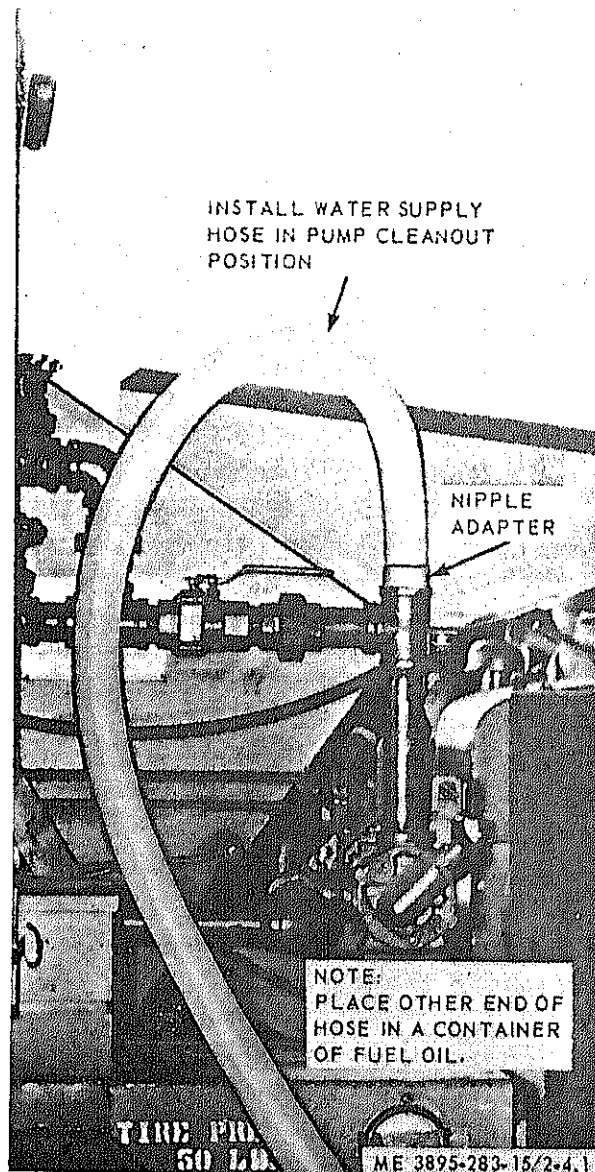

Figure 2-4.1.
- Step 1 Check to see that valves (A) and (J) are closed.
- Step 5 Remove plug (G).
- Step 6 Open valve (B).
- Step 7 Engage asphalt pump clutch lever (E) and pour fuel oil into opening (G); or attach one end of a hose to (G) and place the other end in a container of fuel oil. This allows fuel oil to be pumped through the system and into the pugmill (fig. 2-4.1).
- Step 8 Disengage asphalt pump clutch (lever at E), and fill line with fuel oil before replacing plug (G). This allows fuel oil to stand in the line and pump.
Page 2-12. Immediately after figure 2-4, figure 2-4.1 is added as follows: